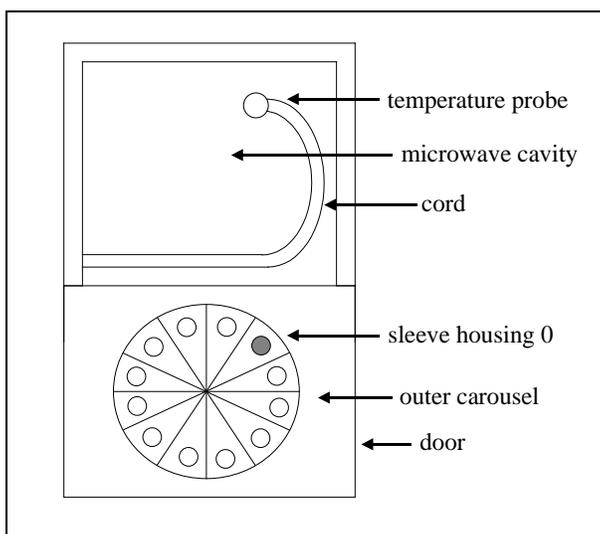

Figure 6. Placing outer carousel into microwave.
- 10.15. Make a J shape with the cord to the temperature probe as illustrated in Figure 6. (When the cord to the temperature probe is in the J configuration, the cord will move smoothly with housing 0 as the outer carousel rotates in the microwave cavity.) Pull the temperature probe back far enough to place the probe into the receiver of housing 0.